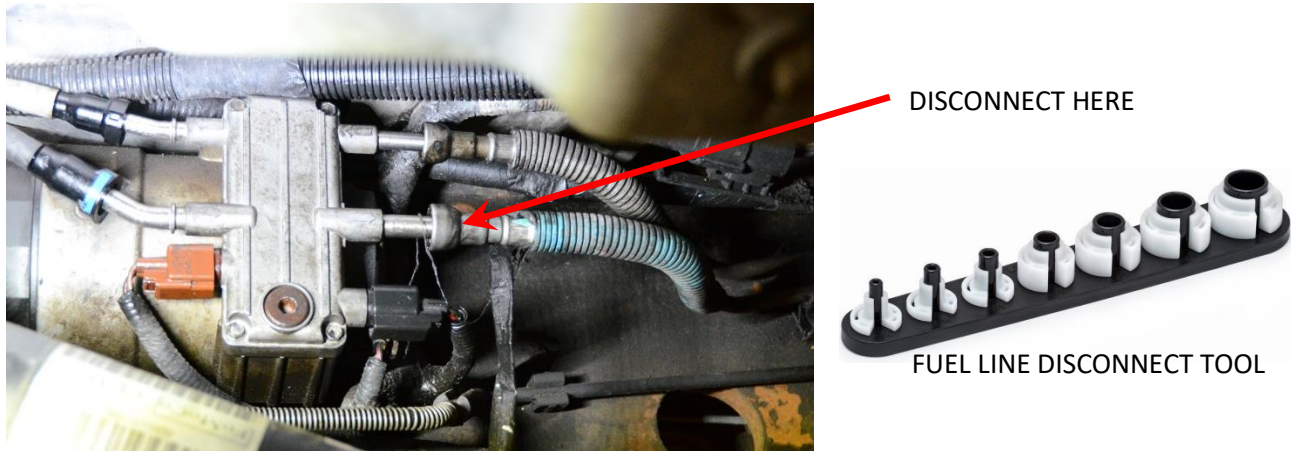

FIGURE 15
- 5-1. Take the fuel line end and lubricate the barbed end with clean motor oil (Figure 11) and press it into the fuel line (HS20) until all three barbs are covered (Figures 12 and 13). The fuel line end should look like Figure 15.
- 6A-1. Disconnect the fuel supply line to the engine from the OE fuel pump. You will need a fuel line disconnect tool. This tool is not included in the kit, but can be picked up at a local auto parts store. This pump is located on the driver's side inside frame rail (Figure 15).